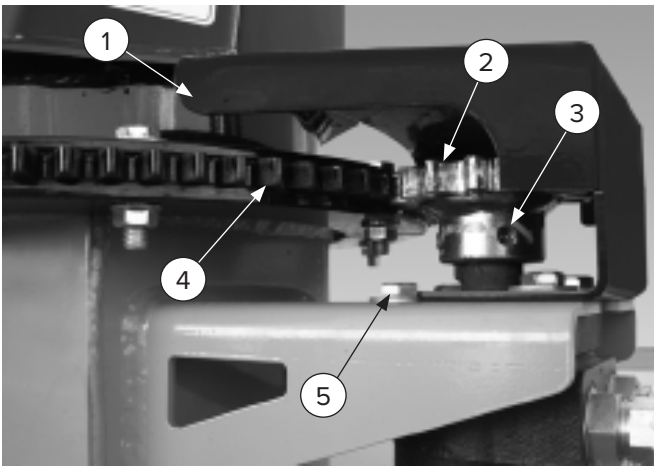

Figure 14
1. Remove chute rotation gear cover (Item 1) [Figure 14].
2. To adjust the drive gear (Item 2) [Figure 14] alignment (height), loosen the drive gear set screws (Item 3) [Figure 14], adjust height of drive gear, re-tighten set screws. Use loctite® on set screws. Drive gear (Item 2) [Figure 14] should be centered on rotation gear (Item 4) [Figure 14].
3. To adjust the gear engagement (backlash), loosen motor mount bolts (Item 5) [Figure 14], adjust motor forward or backward to fully engage drive gear into rotation gears and tighten motor mount bolts (use loctite® on motor mount bolts).
4. Reinstall the chute rotate gear cover (Item 1) [Figure 14].